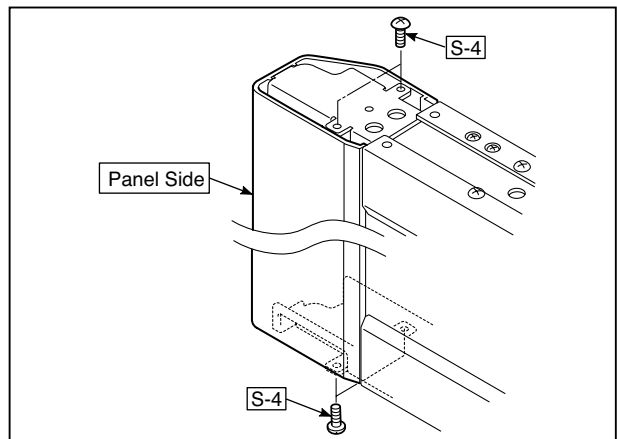

Fig.18
### 13) Remove the Panel side. (See Fig. 18)
1. Remove the "S-4" screws shown in the figure 18 and then remove the Panel Side.